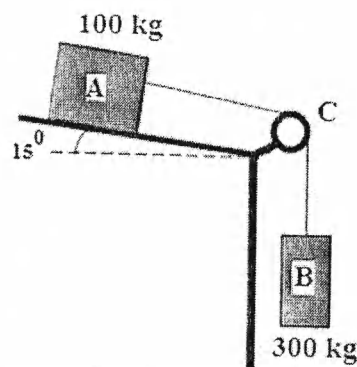

Figure 4
4. What do you mean by general plane motion of the rigid body? Illustrate with examples. Two blocks shown in Figure 4 start from rest. The pulleys are frictionless and having no mass. The kinetic coefficient of friction between the block A and the inclined plane is 0.4. Determine the acceleration of each block and tension in each chord. Use principle of linear impulse momentum. [3+6]